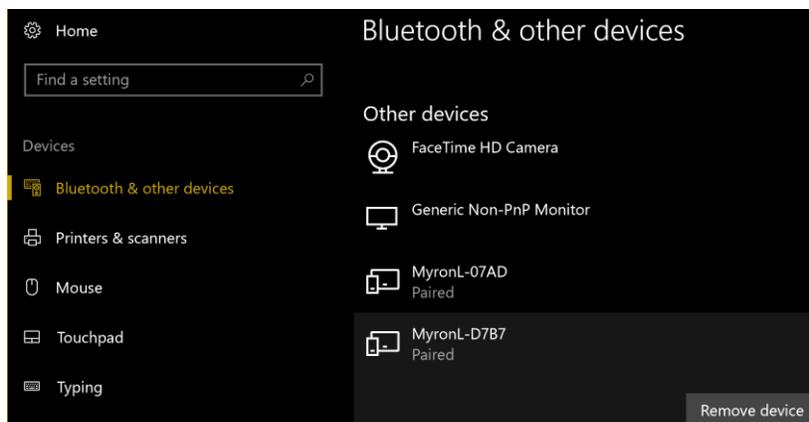

Figure 19
- 3) Click on the "Remove Device" link at the bottom of the dialogue box (Figure 19).